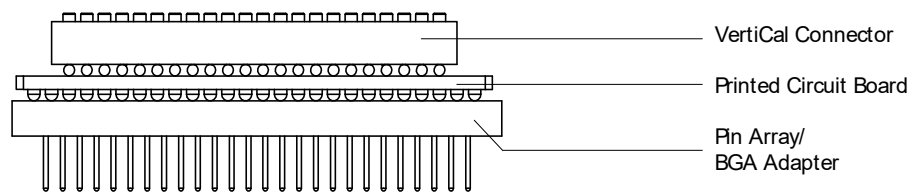

Fig. 4-4 VertiCal Base Board (fitted with Pin Array/ BGA Adapter, Side View)
- with a "BGA adapter" connector allowing connection and removal from an ECU development PCB which has been fitted with a compatible "BGA receiver" socket (see Fig. 4-4).